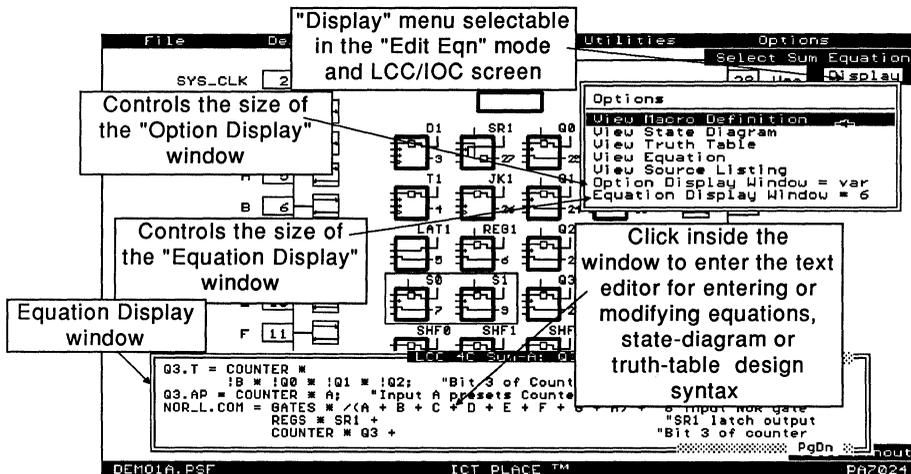

Figure 4-29, "Display" menu in "Edit Eqn" mode
The PSF Text Display Windows are the windows which can be opened to display the logic description of the current design, such as equations, state diagrams, truth tables, macro definitions, and etc. The two types of windows in the PLACE software are the Equation and Option Display windows. An Equation Display window is opened by clicking the left mouse button on any SUM or AND node (gate), state diagram block and truth table marker (indicated by Tn where n = 1 to 10). This window is always located at the bottom of the screen. Refer to Figures 4-29 through 4-31. On the other hand, the Option Display window is located at the top of the screen and is opened from the "Display" menu. The "Display" menu is selectable in the "Edit Eqn" mode, LCC/IOC screen for the PEEL Arrays, and IOC screen for PEEL Devices. See Figures 4-29 and 4-30.
- The second method is to use the last two options in the "Display" menu (Figure 4-29). Click at either option to advance the number of lines for the window. This number will be used the next time the window is opened. In addition, the selection "var" ("variable") is available for both these options. This selection (illustrated by "Option Display Window = var" or "Equation Display Window = var") allows the size of the window to be dependent on the type of design syntax selected. The criteria for setting the "var" window size are: